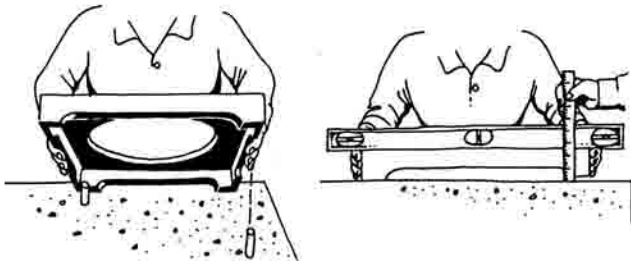

Figure 4-3
3. Position base over dowels and check for level. Most decks are pitched to ensure runoff of moisture. If necessary, scribe and trim the plinth to level (using a fine-toothed hacksaw if plinth is aluminum, or a fine-toothed wood saw if plinth is wood, polyurethane, or fiberglass). Make sure that you maintain the same amount of ventilation as supplied (Fig. 4-3).